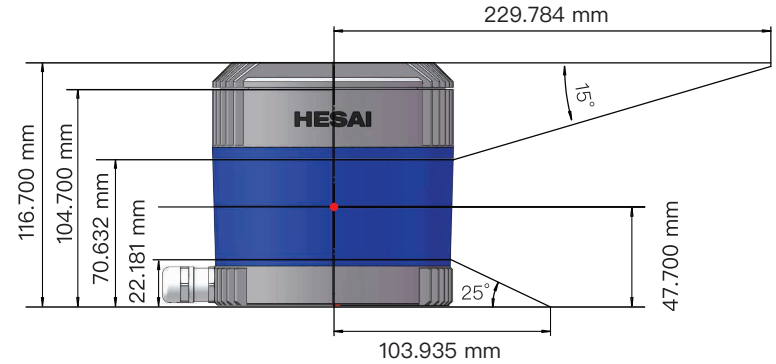

Figure 1.5 Laser Firing Position
1) Figure 1.3 shows the coordinate system and the z axis is along the rotation center of the LiDAR. The origin of the coordinate system is shown as a red dot in Figure 1.5 (side view of the LiDAR). All the LiDAR measurement data are relative to the origin after geometry transformation according to LiDAR's optical and mechanical design.